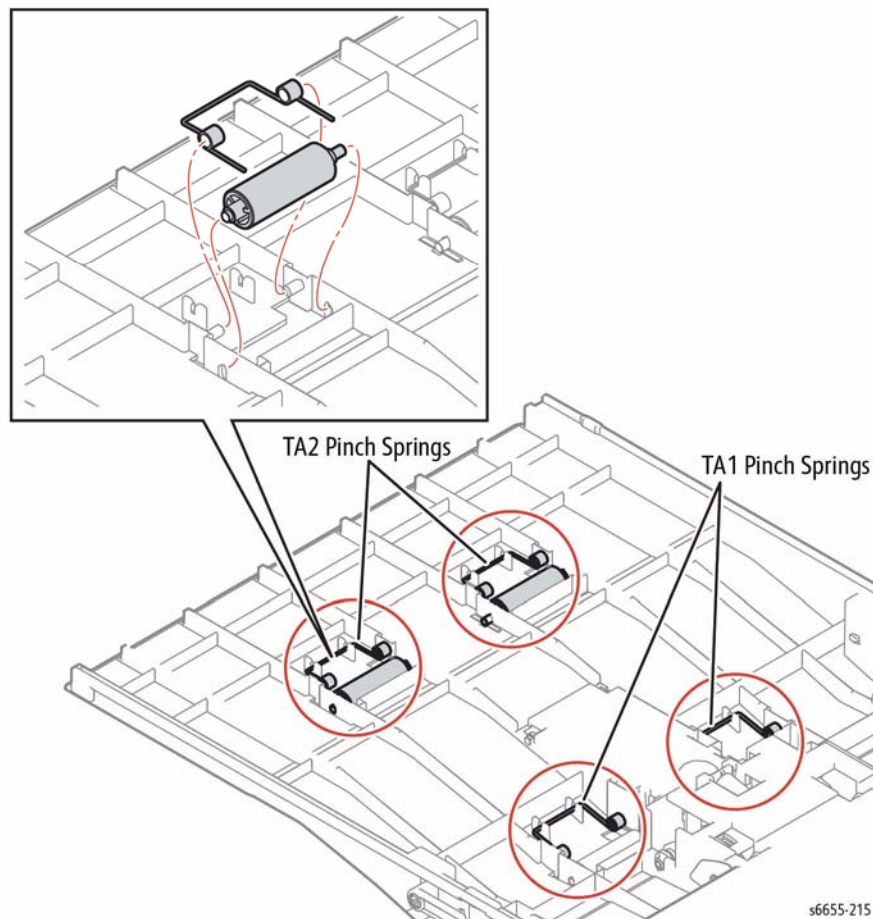

Figure 1 Remove the Bypass Tray Pinch Roller
3. Refer to Figure 1 to locate and remove the pinch spring from the roller being removed.